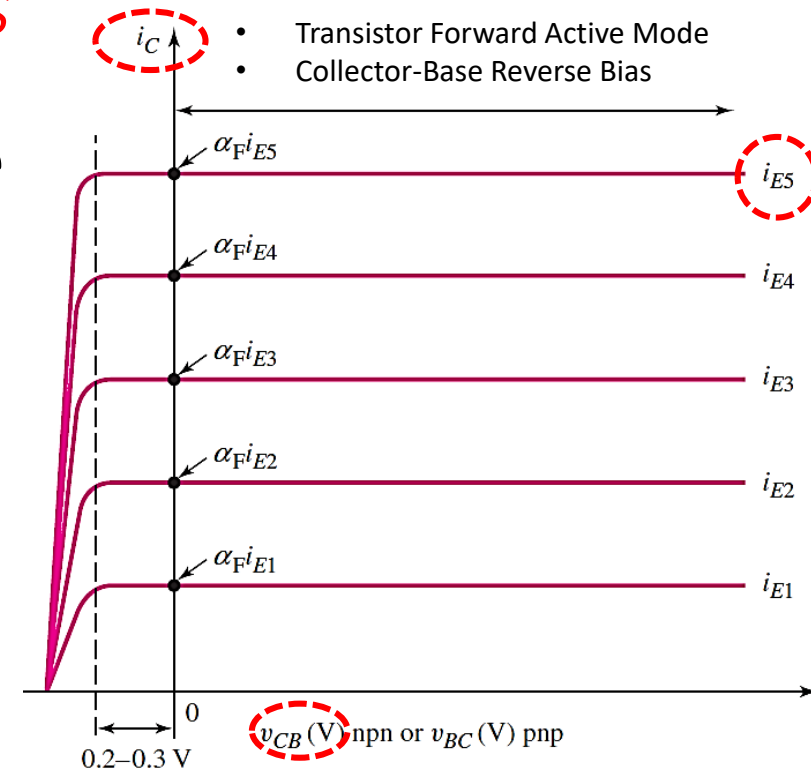

Figure 5.12 Transistor current-voltage characteristics of the common-base circuit
- Figure 5.12 shows the typical **common-base current-voltage characteristics**.